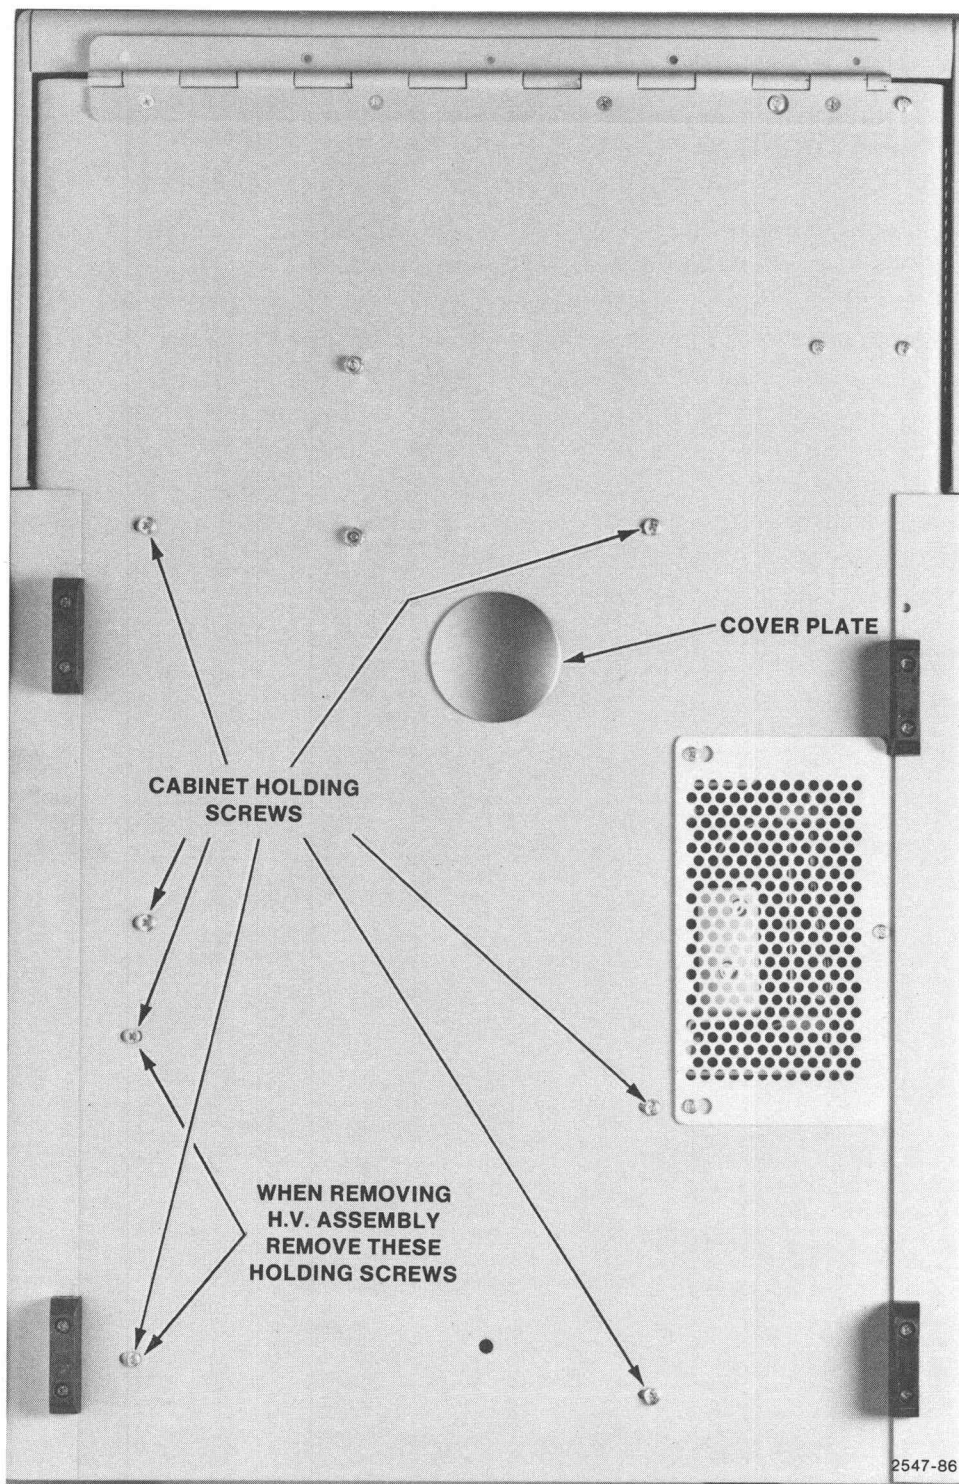

Figure 4-4. Bottom View of Instrument.
1. With the top cover on, tip the instrument on its rear. There are seven screws holding the unit to the bottom of the cabinet (Figure 4-4). Using a POZIDRIV screwdriver, remove all but the top two.